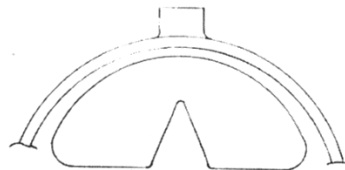

Figure 6-2:
7. If the condition described above is experienced, loosen the rear cover plate screws 1 full turn and loosen the lock set screw 3/4 to 1 full turn. Then, shift the electric reed vibrator until the cover plate is brought into alignment with the inside diameter of the Proving Ring, (see Figure 6-2). Alignment according to your sight is good enough. While holding the electric reed vibrator in alignment, tighten the rear cover plate screws. This should give a clamping action on the reed holder. If there is no clamping action refer to step 8.